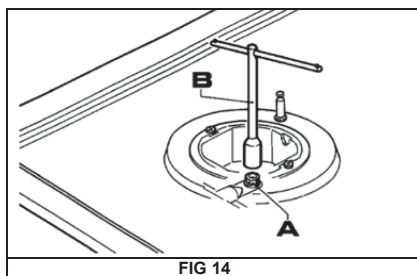

FIG 14
- Insert a small screwdriver “D” into hole “C” (fig. 14) and turn the throttle screw to the right or left until the burner flame has been adequately regulated to the “Reduced rate” position.
The burners can be adapted to different types of gas by mounting injectors suited to the type of gas in question. To do this, first remove the burner tops using a wrench "B". Now unscrew injector "A" (see fig. 14) and fit a injector corresponding to the utilized type of gas in its place.